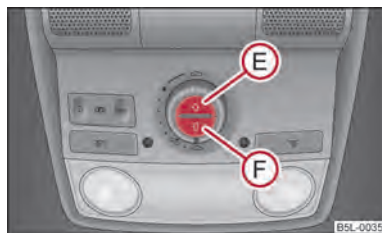

Fig. 22 Buttons for sun screen
You can open or close the sun screen separately with the aid of the buttons ⇒ fig. 22.
- Briefly press the button **E** ⇒ fig. 22 in order to fully open.
- Briefly press the button **F** ⇒ fig. 22 in order to fully close.
Press the switch ⑥ ⇒ fig. 22 for approx. 10 seconds in order to initialise the sun screen.